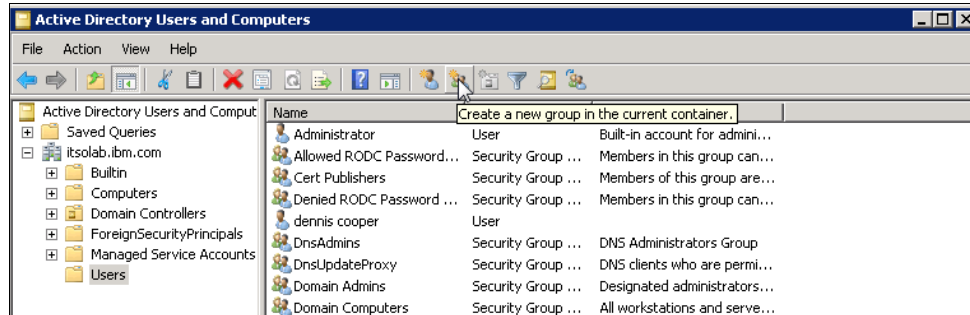

Figure 9-36 Active Directory Users and Computers window to create a new group
1. Launch the Active Directory interface: Go to **Start** → **Run**, type `dsa.msc`, and click **OK**. The Active Directory Users and Computers management console opens (Figure 9-36).